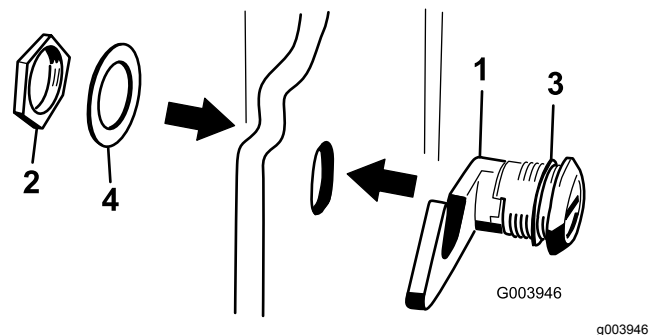

Figure 20
3. Remove the nut from the hood-latch assembly (Figure 20).